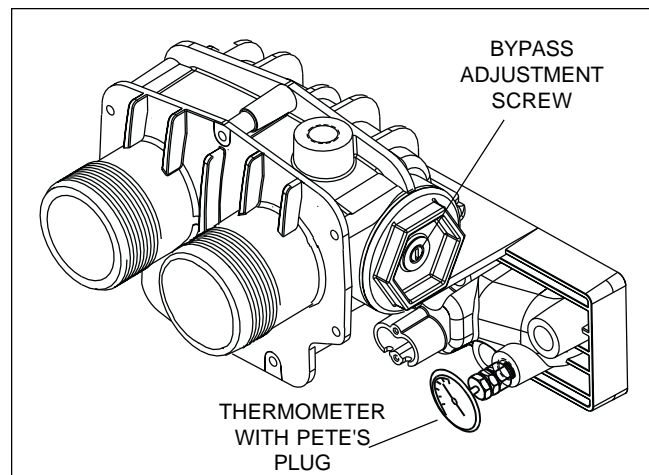

Figure 20. Temperature Rise Measurement
Before checking the temperature rise, make sure that the pool filter is clean. If necessary, clean all components of the filter system. Temperature rise is measured in the outlet of the far-right tubes when facing the inlet/outlet water heater. To measure the temperature rise, turn off the filter pump and remove the plastic plug to the right of, and just below the level of the outlet water pipe. This is mounted flush with the heater jacket (See Figure 20). With the plug removed, install the special thread adapter and "Pete's" plug fitting and insert a pocket thermometer.
6. Locate the bypass adjustment screw on the right-hand side of the header (see figure 20). Loosen the nut so that the screw can be adjusted. A slight water leak past the nut may be expected. Turn the screw counterclockwise to decrease the temperature rise, and clockwise to increase the temperature rise as needed to achieve the ranges in Table 8. After the adjustment, tighten the nut so that no leaks occur.